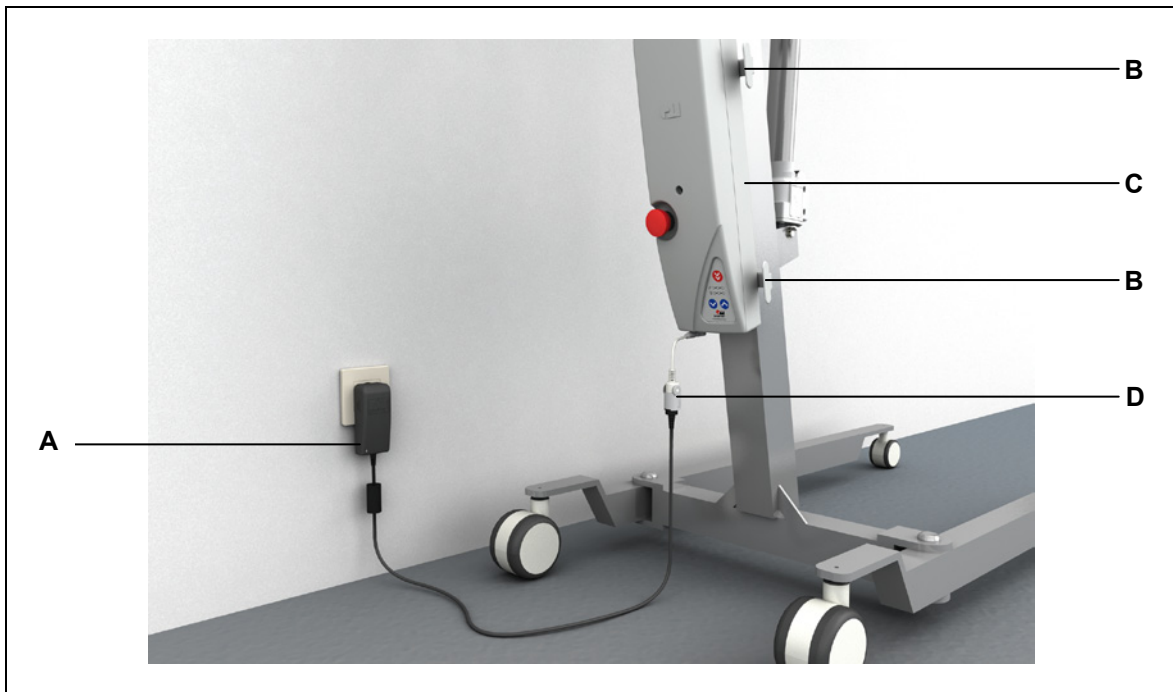

Figure 14 Loading the ACCUCONTROL with the PLUG-IN CHARGER
- The *ACCUCONTROL* may only be charged as shown in Figure 13 or Figure 14 (pages 32 and 33).
- 4** Connect the PLUG-IN CHARGER to the connecting cable using the locking cap (**D**), as shown in Figure 14.